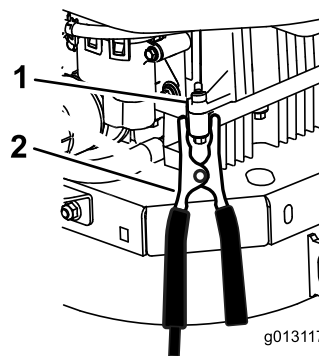

Figure 64
6. **Make the final connection on the engine block of the stalled vehicle (NOT to the negative battery post) away from the battery and stand back (Figure 64).**